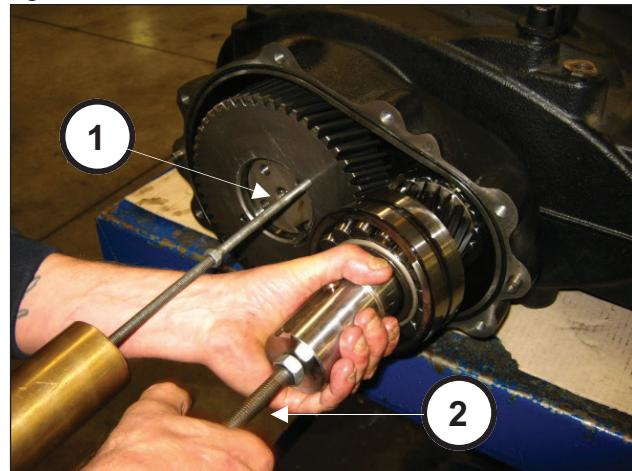

Fig. 12
In order to remove the pinion + ring gear assembly it is necessary to apply extractor hammers to the 2 M8 holes of the ring gear (pos. ①, Fig. 12) and to the pinion M12 hole (pos. ②, Fig. 12).